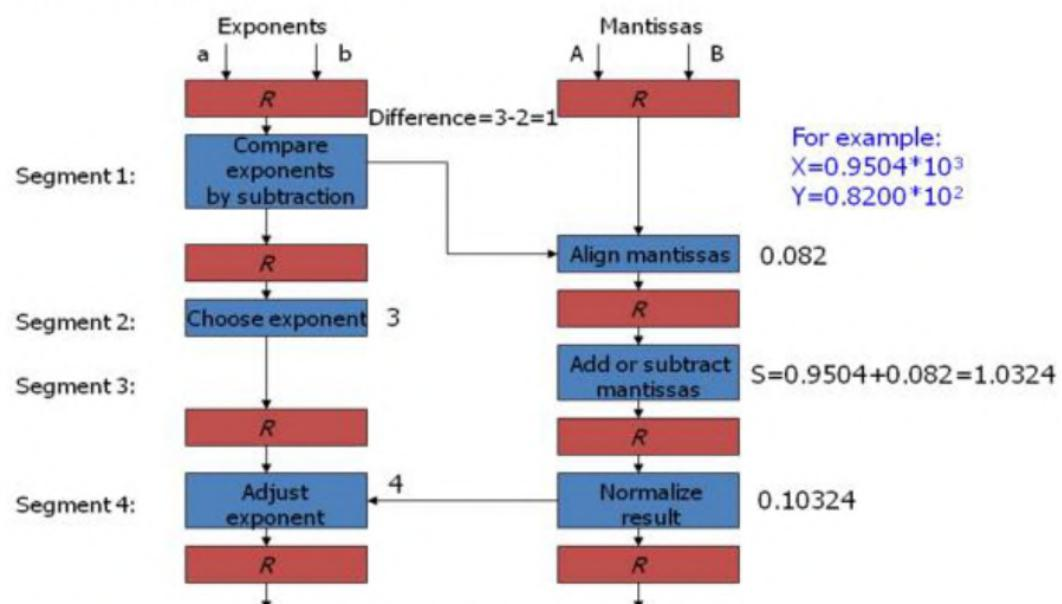

Fig 4-6: Pipeline for floating point addition and subtraction
- The floating-point addition and subtraction can be performed in four segments, as shown in Fig. 4-6.